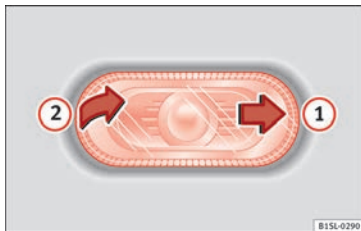

Fig. 92 Removing the side turn signal
1. With one hand move the side turn signal backwards » **Fig. 92 ①**.
2. Remove the side turn signal from the chassis by leverage **②**.